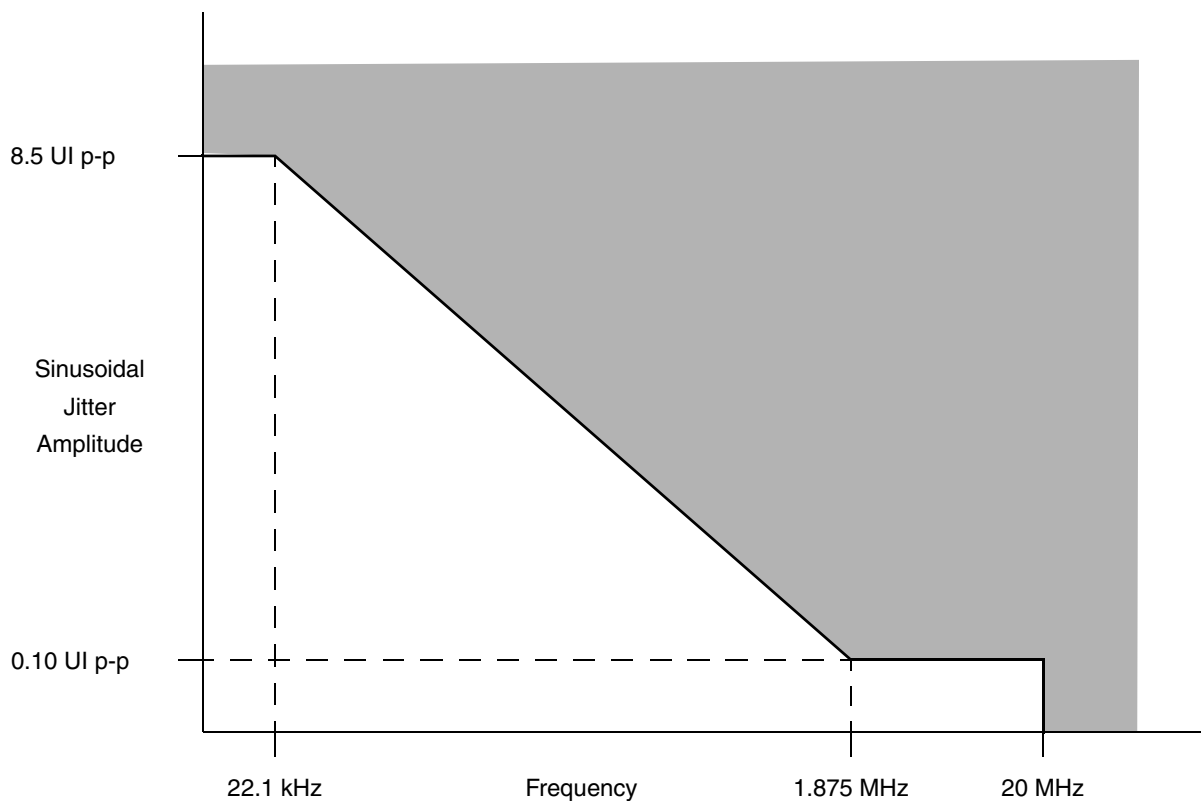

Figure 44. Single-Frequency Sinusoidal Jitter Limits
2. Total jitter is composed of three components: deterministic jitter, random jitter and single frequency sinusoidal jitter. The sinusoidal jitter may have any amplitude and frequency in the unshaded region of Figure 44. The sinusoidal jitter component is included to ensure margin for low-frequency jitter, wander, noise, crosstalk, and other variable system effects.
Figure 44 shows the single-frequency sinusoidal jitter limits.
2. Total jitter is composed of three components: deterministic jitter, random jitter, and single frequency sinusoidal jitter. The sinusoidal jitter may have any amplitude and frequency in the unshaded region of Figure 44. The sinusoidal jitter component is included to ensure margin for low frequency jitter, wander, noise, crosstalk, and other variable system effects.